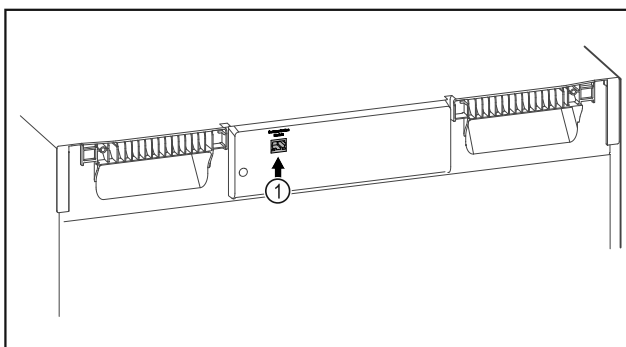

Fig. 138
- ▣ SmartModule Fig. 138 (1) is in use.